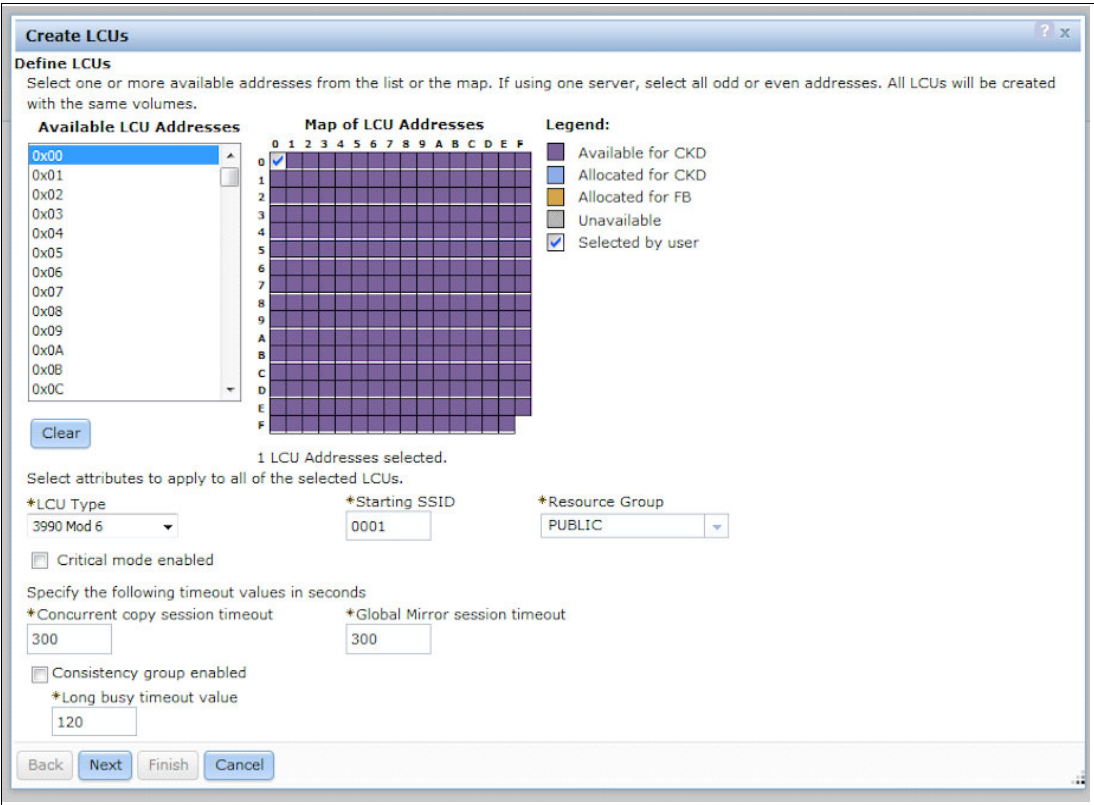

Figure 6-18 Creating LCU panel
3. In the Tasks section, we click **Create new LCUs with volumes**. The Create LCUs - Define LCUs panel displays, as shown in Figure 6-18.